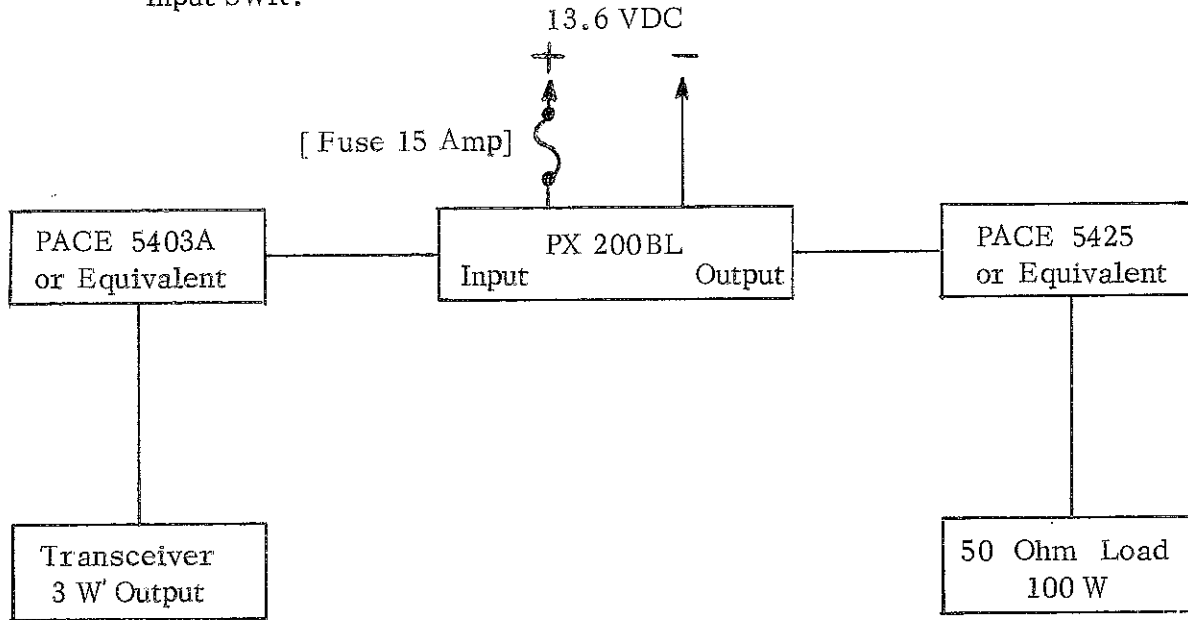
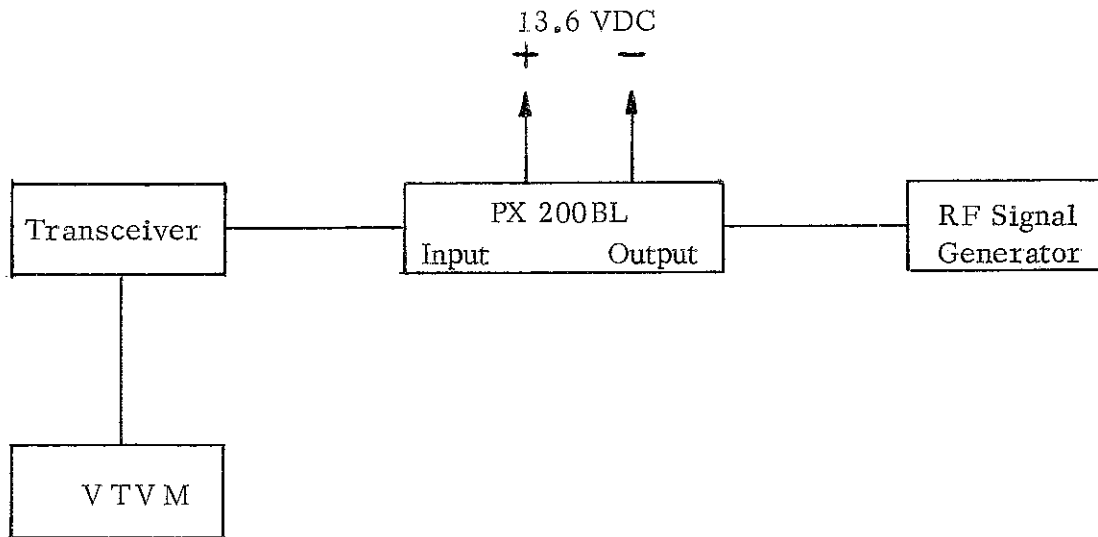
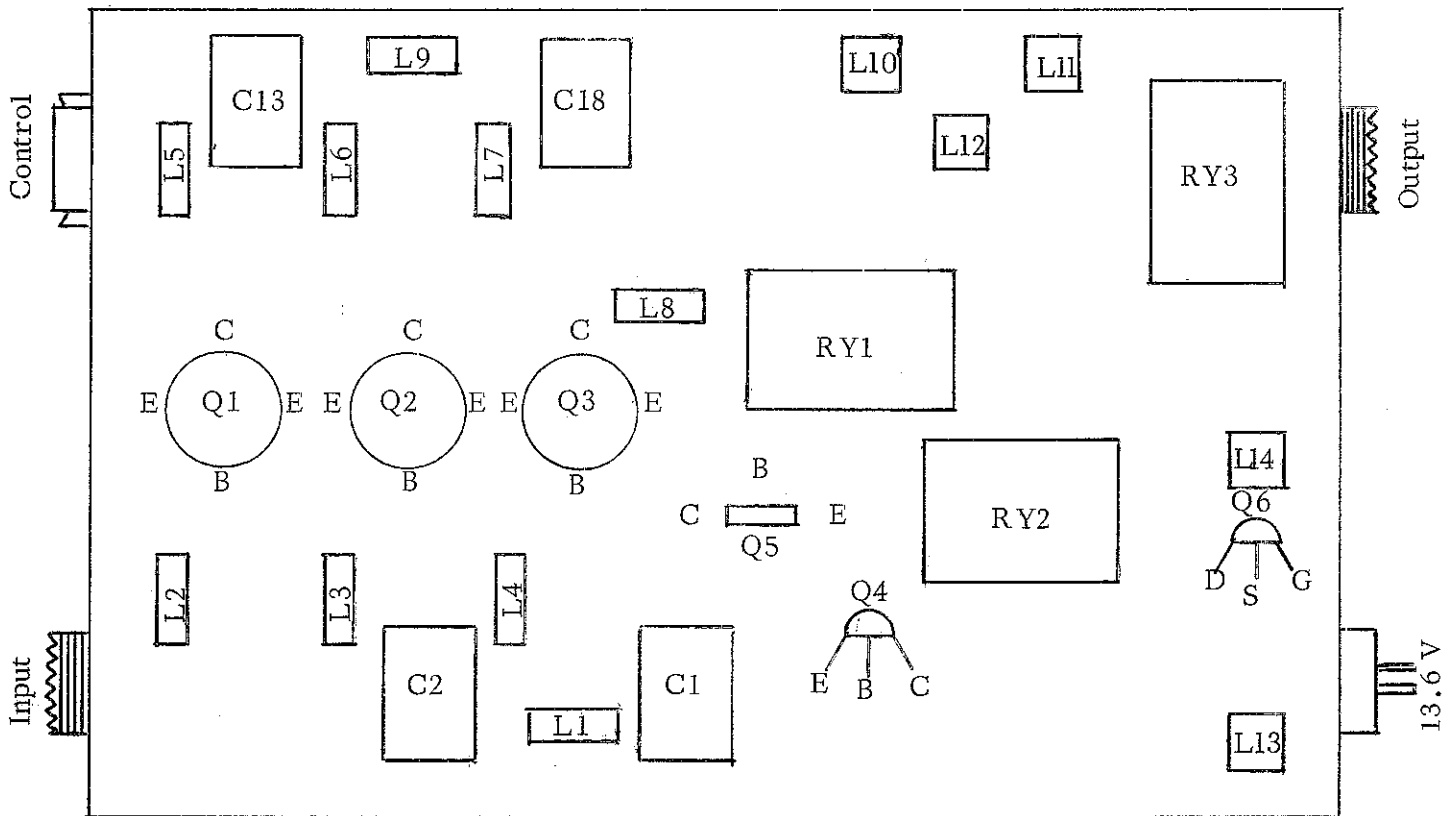

FIGURE 1
FIGURE 2
FIGURE 3
Refer to TEST EQUIPMENT SETUP, FIGURE 1, and PARTS LOCATION DIAGRAM, FIGURE 3.
1. Connect equipment as shown in FIGURE 1 with transmitter switch in the "ON" position and set the transceiver to the middle of the operating frequency range desired.
Refer to TEST EQUIPMENT SETUP, FIGURE 2, and PARTS LOCATION DIAGRAM, FIGURE 3.
1. Connect equipment as shown in FIGURE 2 with receiver switch in the "ON" position and set the RF signal generator to the middle of the operating frequency range desired, and using VTVM across the speaker.